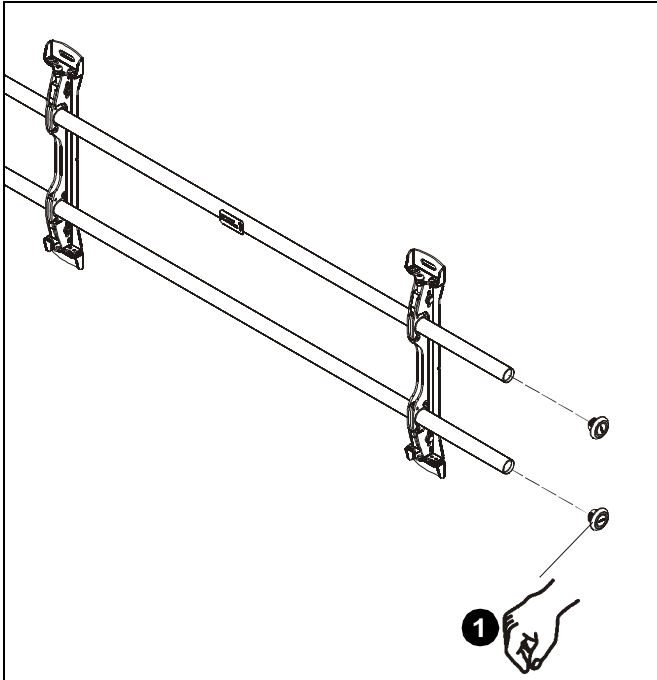

Figure 1
1. Remove caps from one side of mounting rails on XTM/XSM mount. (See Figure 1)